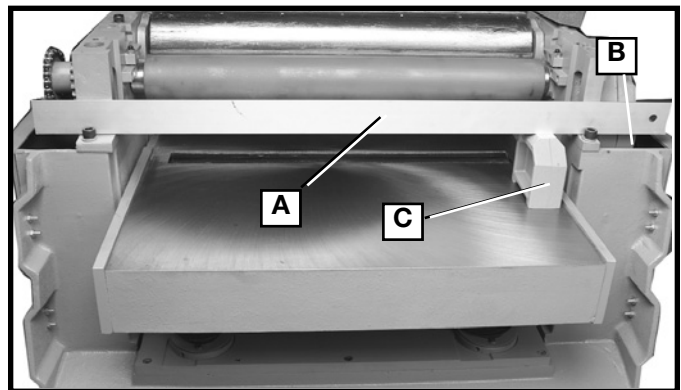

Fig. 22
6. Place the straight edge (A) on the two ground surfaces (B) of the outfeed end of the planer as shown in Fig. 22. Check both ends of the table with guage block (C) to see if table is level.